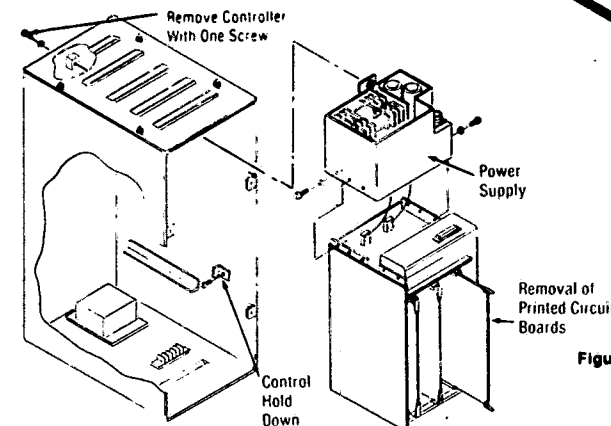

Figure 8-15. CONTROL CONSOLE ASSEMBLY.
5. The three printed circuit boards in the controller are removed by lifting the card pulls to disengage the contacts from the socket, and pulling the card straight out. See Figure 8-15. Use both card pulls simultaneously, to insure starting the card straight. This prevents damage to the socket controls. Handle boards by the plastic card pulls.
8. The controller itself is held in position by a single screw, located at the top. Unplug the cables from the controller, remove screw, and slide the controller forward on its rails. See Figure 8-15.
9. The power supply is secured to the top of the controller with six screws. To remove the power supply, unplug the cables attached to it and remove the six screws. See Figure 8-15.